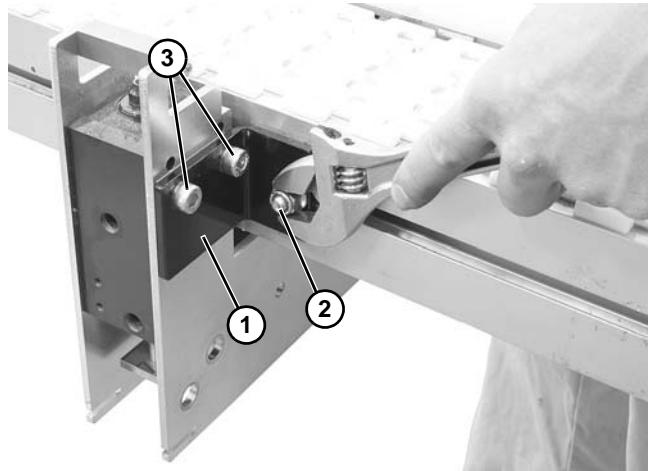

Figure 10
3. Loosely install angle bracket (**Figure 10, item 1**) to conveyor with M8 x 20 mm stud and hex nut (**Figure 10, item 2**).
4. Loosely secure the angle bracket (**Figure 10, item 1**) to the lift and locate station with two socket head screws (**Figure 10, item 3**).